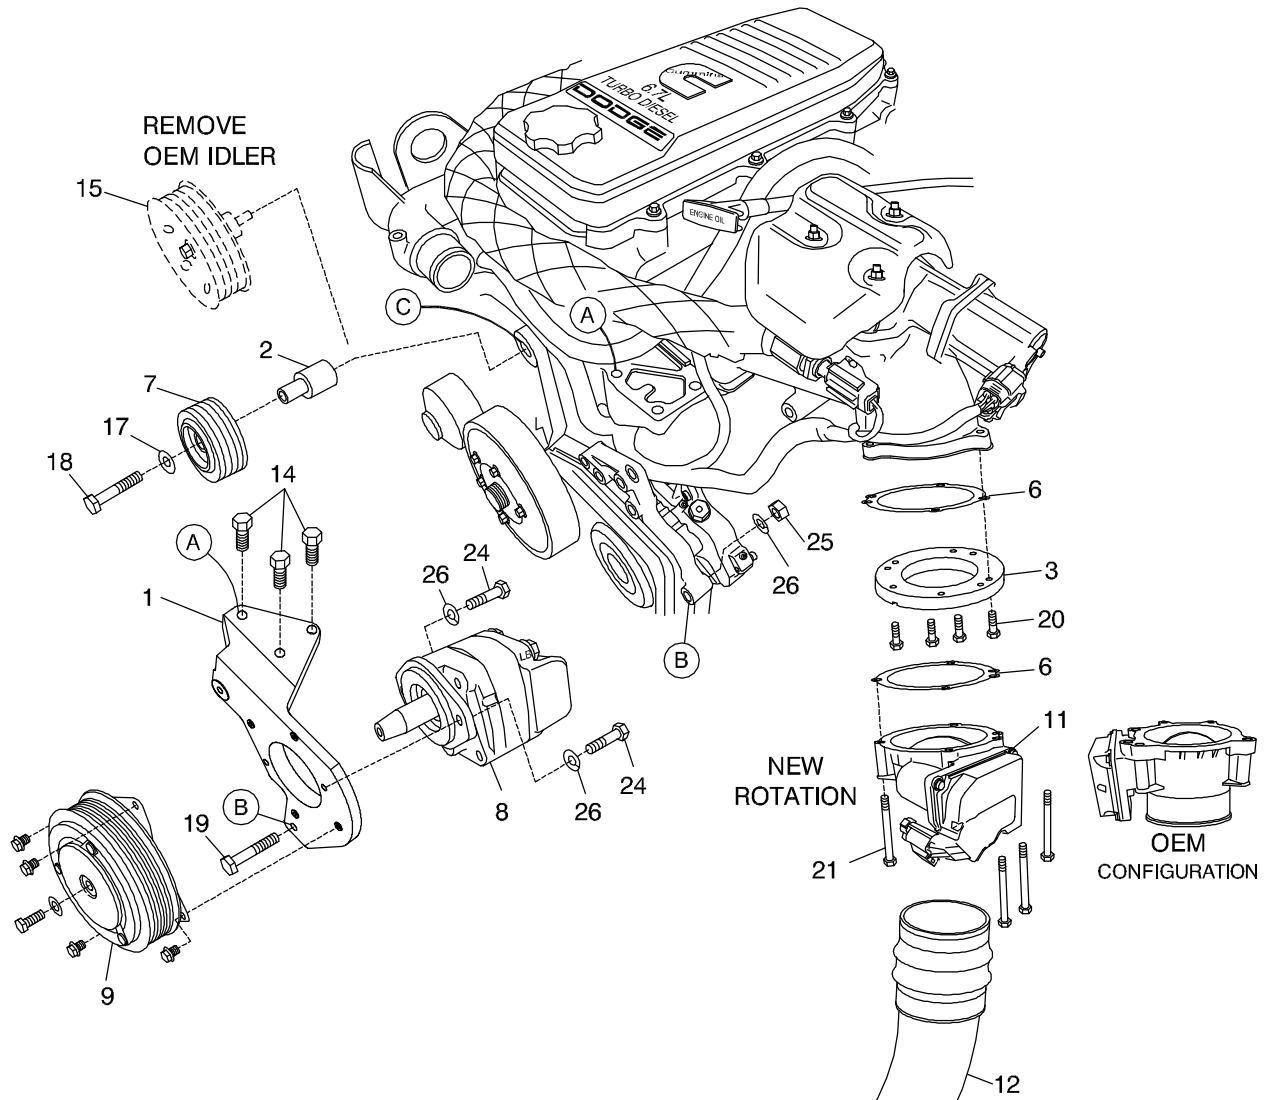

FIG. 3
6. Remove the top intercooler condenser bolts on the front of the truck. Fig. 5. Loosening the clamp, separate the intercooler tube (12) and the lower part of the air throttle body (11). Lift up the intercooler condenser and pull it toward you about 2" to get the tube away from the throttle body. Remove the OEM gasket from the upper portion. Replace with a new gasket (6). Using four M6 x 16 bolts (20) mount the adapter ring (3) to the upper portion of the throttle body still attached to the truck with the counterbore holes facing down. The small notch at the outside diameter beside one of the counterbore holes indicates that hole points toward the front of the truck. Fig. 3.